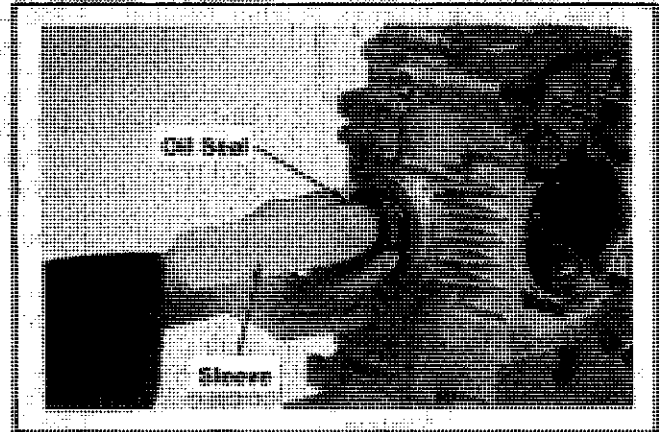

Figure 11-23. Installing Oil Seal Using Sleeve.
1. Slide the appropriate seal sleeve (refer to Section 2, Special Tools) over flywheel end of crankshaft. Generously lubricate lips of front oil seal with light grease. Slide oil seal over sleeve. Refer to Figure 11-23.
3. Slide the appropriate seal sleeve over PTO end of crankshaft. Generously lubricate the lips of rear oil seal with light grease. Slide the oil seal over sleeve. Refer to Figure 11-23.